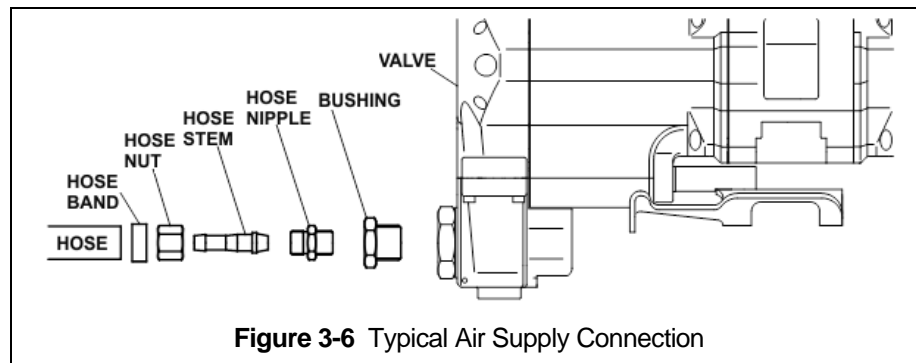

Figure 3-6 Typical Air Supply Connection
- 3.9.5 Make connections to air supply; reference Figure 3-6. Use a reducing adapter at the hoist valve section for hose sizes larger than 3/4 inch NPT.